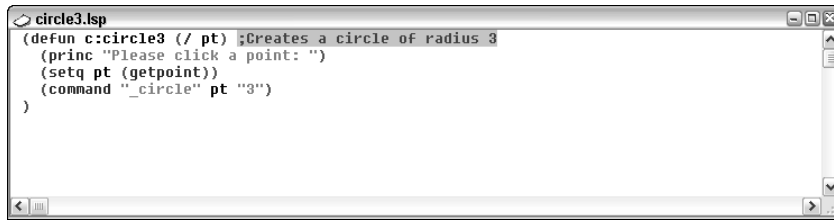

Figure 34-4: The `circle3` AutoLISP routine.
To examine the contents of the `circle3.lsp` file, open it in the Visual LISP editor. Figure 34-4 shows the `circle3` routine. At this point, ignore the color formatting, which is discussed later in this chapter.
- ♦ You interpret AutoLISP from the innermost parenthetical elements first. For example, on line 3 of the code shown in Figure 34-4, `(getpoint)` is done first, and then the result is used for the `(setq pt (getpoint))` expression. This is analogous to mathematics, as in the expression  $(3 + (5 \times 4))$ , where  $5 \times 4$  is computed first, and the result is added to 3.
The following explains the routine in Figure 34-4 line by line:
- ♦  **Comment Block:** In Figure 34-4, you see an example of a comment. Visual LISP supports several comment styles, which Chapter 35 covers. Visual LISP simplifies the addition of a 3-semicolon comment. To place a 3-semicolon comment, highlight the text that you want to change into a comment and click Comment Block on the Tools toolbar. See Chapter 35 for more information on creating comments.